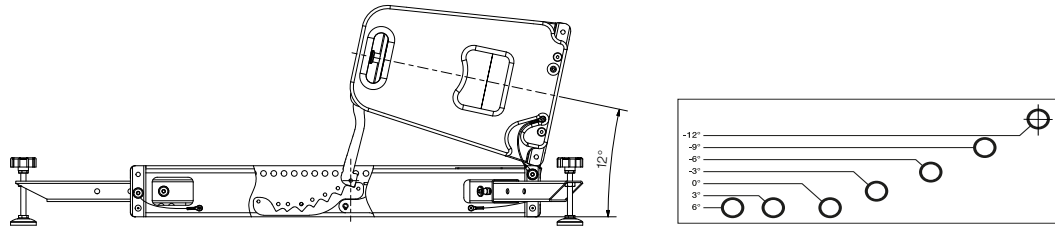

Figure 4.10.5 – VERA20 loudspeaker side view – tilted down 12°
8. Select the appropriate level (number of degrees) for your system setup. See figures 4.10.5 to 4.10.11.